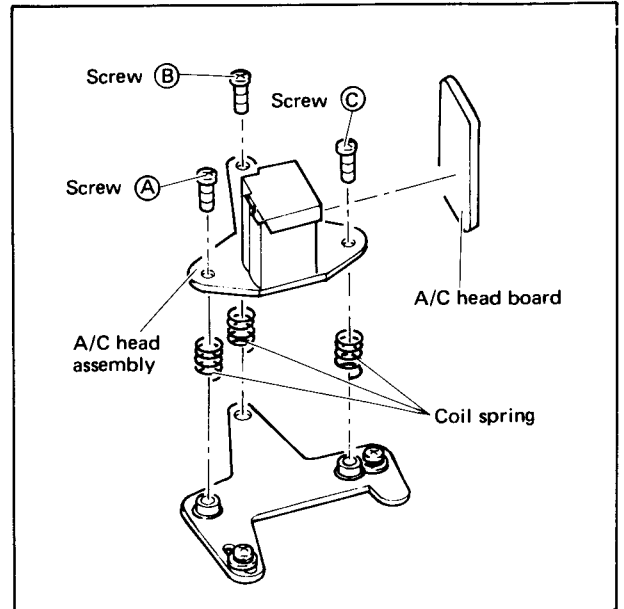

Fig. 4-21 A/C head replacement
1. Take out screws (A), (B) and (C) to remove the A/C head subassembly. Use care regarding the coil springs as shown in Fig. 4-21.